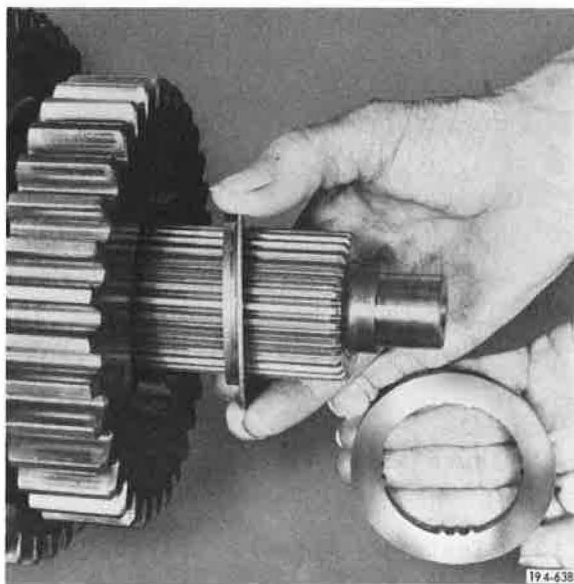

Figure 350. Installing Thrust Washers
9. Install fourth speed gear flanged thrust washer, and fourth speed gear splined thrust washer. See Figure 350.